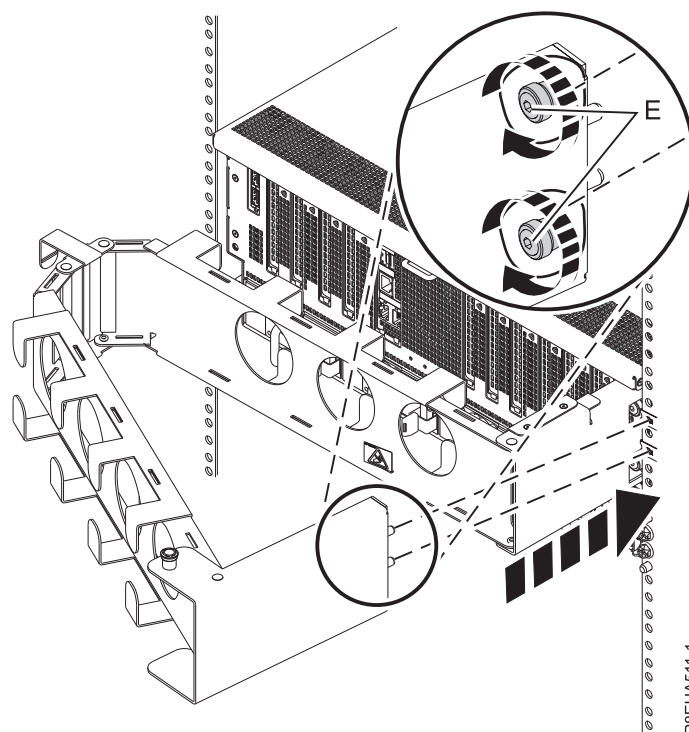

Figure 19. Attaching the outer plate to the rails
3. Attach the outer plate to the rails with two captive screws (E) as shown in Figure 19.